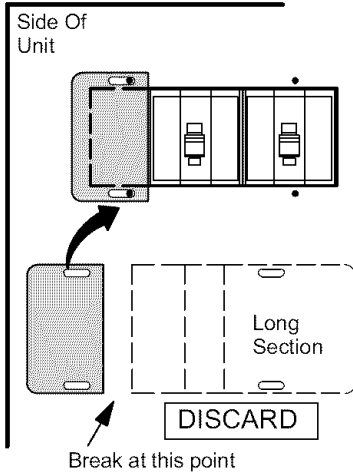

Figure 5
5. Break the patch plate for the specific size of electric heat unit / blower coil unit that you are installing. Discard the unused piece of patch plate. Figure 4 shows CB30M-21/26, CB30U-21/26, CBX32M-018/024 and CBX32MV-018/024 units; refer to figure 5 for all other blower coil units.